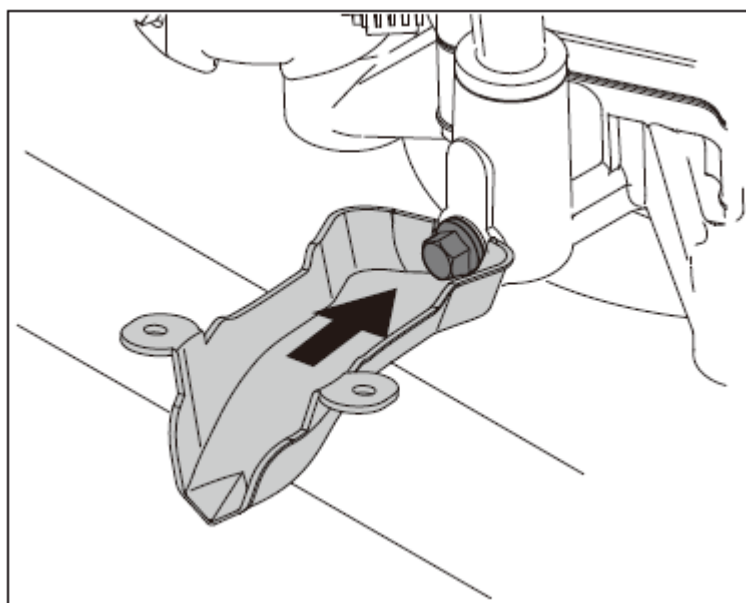

Fig.33
3. Place the oil drain sleeve (included with tractor) under the drain plug. (Fig. 33)